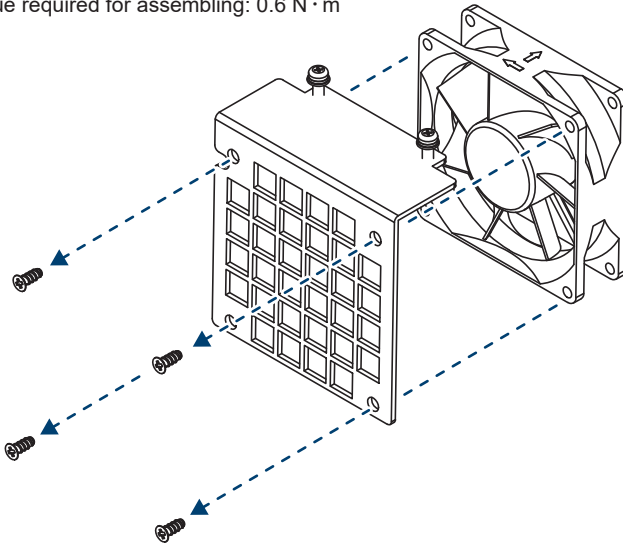

Figure 5-16: Replace with a new fan
- (4) Clean assembly or replace with a new fan. (shown in **Figure 5-16**)
- (5) Reassemble using a tightening torque of $0.8 \text{ N} \cdot \text{m}$.